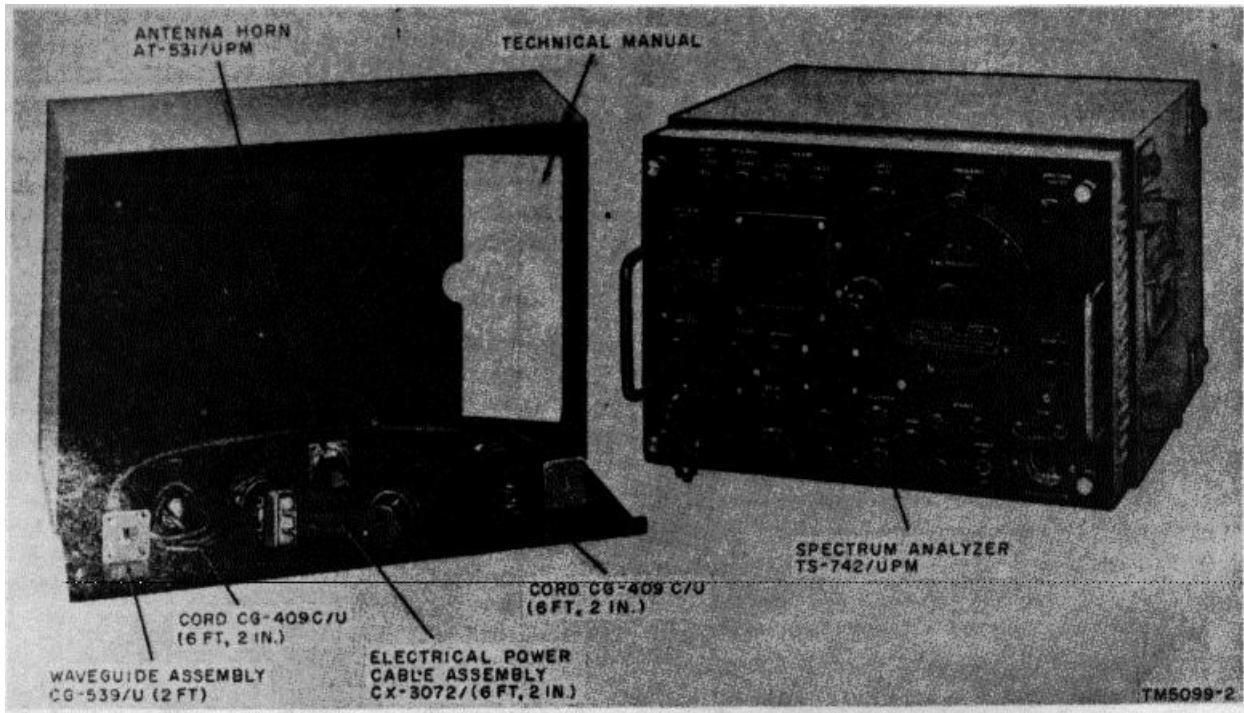

Figure 1. Spectrum Analyzer AN/UPM-8, components.
a. This manual contains instructions for the installation, operation, maintenance, and repair of Spectrum Analyzer AN/UPM-58 (fig. 1).
Spectrum Analyzer AN/UPM-58 (fig. 1) is a 1.87-centimeter spectrum analysis unit used to analyze power in pulsed or continuous-wave (cw) radar and beacon signals from 15,800 to 16,200 megacycles (mc). The equipment may also function as a synchroscope for large amplitude-pulsed signals. As a spectrum analyzer, it is capable of resolving into distinct transients, the spectrum resulting from the pulse modulation of radar transmitters whose modulation pulses vary in width from .2 to 2 microsecond ( $\mu$ sec) and in repetition rate from 100 to 10,000 pulses per second (pps). Spectrum Analyzer AN/UPM-58 can accommodate input radio-frequency (RF) power up to +30 decibels referred to 1 milliwatt (dbm). The desired input level is obtained by means of a variable attenuator that provides 50 decibels (db) of attenuation. The attenuator is calibrated in 1-db steps for the first 45 db and uncalibrated for the rest of its range. The frequency of a spectrum line can be 2 determined with an absolute accuracy of  $\pm 10$  mc and a relative accuracy of  $\pm 5$  mc. When functioning as a
(fig. 1)